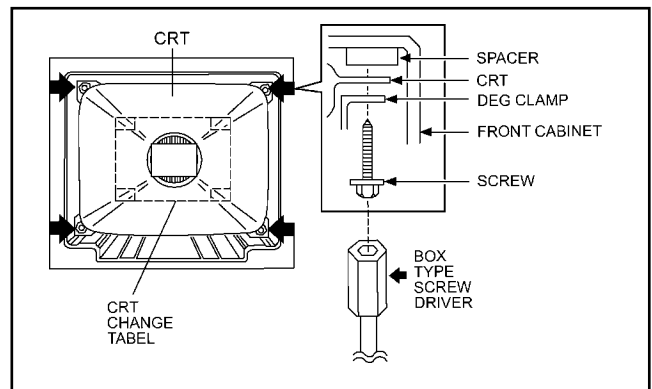

Fig. 4
- 2. While keeping the surface of CRT down, mount the TV set on the CRT change table balanced will as shown in Fig.4.
- 3. Remove 4 screws marked by arrows with a box type screw driver as shown in Fig.4.
- \* About CRT Spacer (Fig.4)